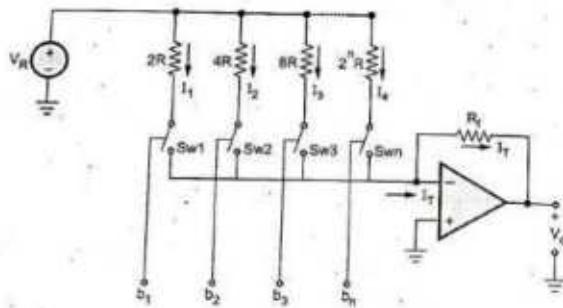

Fig. 6.2.4 Binary weighted resistor DAC
- The binary weighted resistor DAC uses an op-amp to sum n binary weighted currents derived from a reference voltage  $V_R$  via current scaling resistors  $2R, 4R, \dots, 2^n R$ , as shown in the Fig. 6.2.4.
- As shown in the Fig. 6.2.4, switch positions are controlled by the digital inputs. When digital input is logic 1, it connects the corresponding resistance to the reference voltage  $V_R$ ; otherwise it leaves resistor open. Therefore,